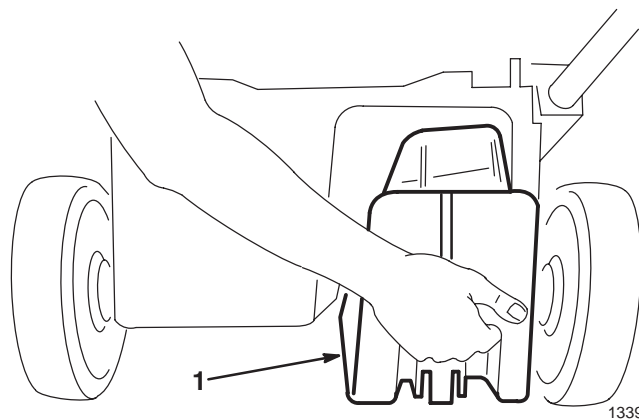

Figure 6
2. Open discharge door and insert plug into discharge tunnel opening (Fig. 6). Since the plug is slightly wider than the discharge tunnel opening, you must rotate the plug clockwise slightly while inserting it.